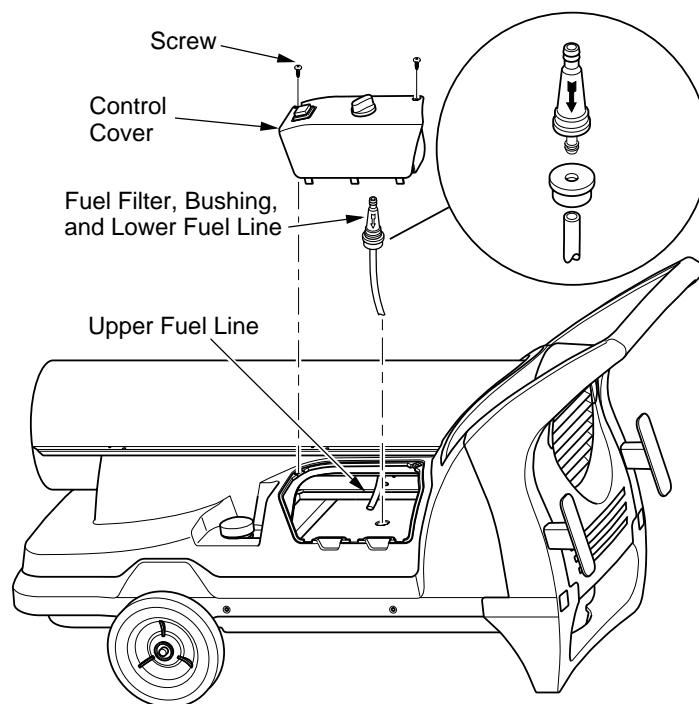

Figure 11 - Fuel Filter Removal
3. Pull upper fuel line off fuel filter neck (see Figure 11).
4. Carefully pry bushing, fuel filter, and lower fuel line out of fuel tank (see Figure 11).
3. Remove 2 control cover screws with a phillips screwdriver. Remove control cover (see Figure 11, page 9).
12. Replace control cover (see Figure 11, page 9).
- Remove control cover screws using phillips screwdriver (see Figure 11, page 9).